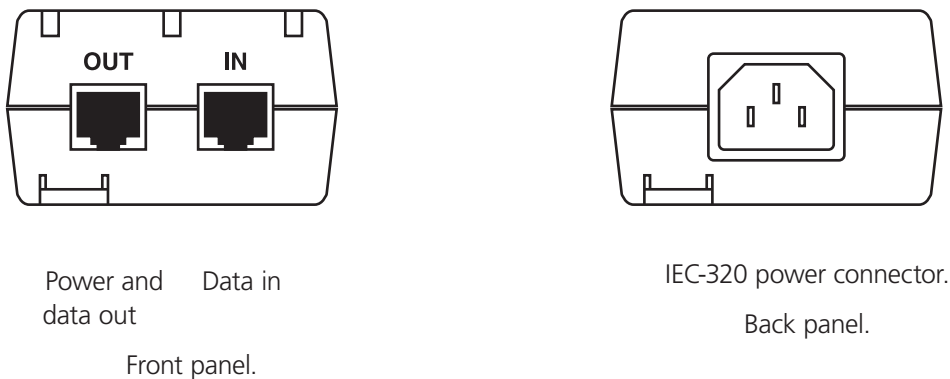

Figure 2. Ports on the power injector.
3. Using CAT5e or higher cable, connect the RJ-45 port on the injector labeled “IN” to your network switch. See Figures 2 and 3.
4. Connect the RJ-45 port labeled “OUT” on the injector over Ethernet cable to the powered device. See Figures 2 and 3.